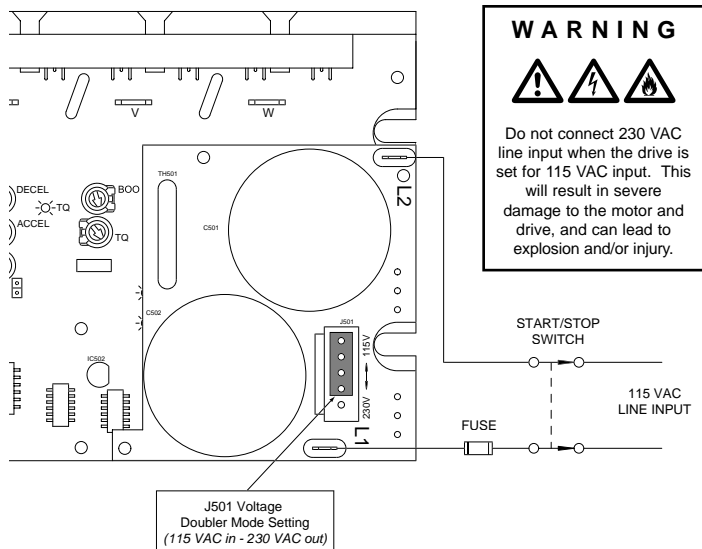

Figure 13. AC Line and Fuse Connections for Doubler FHP Series Drives (Voltage Doubler Mode)
Connect AC power input to L1 and L2 as shown in Figure 13 and 14 (pages 25 & 26), depending on your power needs.
- If the input voltage is **115 VAC** and the desired output voltage is 230 VAC (voltage doubler mode), set 115V/230V jumper as shown in Figure 13 (page 25). A line fuse may be added to L2.